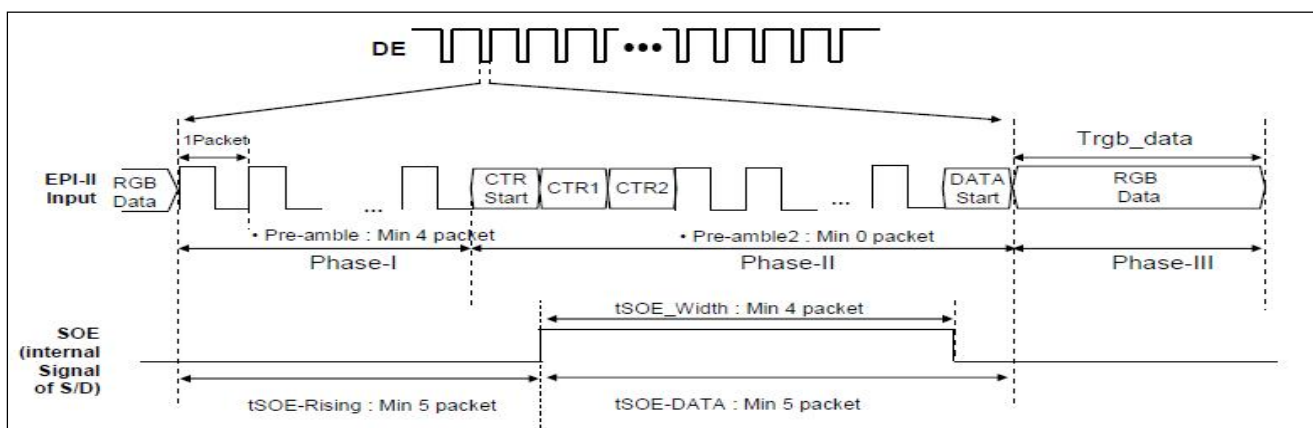

FIG 5. SOE Width & Timing
7. 3D performance specification is expressed by 3D luminance, 3D Crosstalk and 3D viewing angle. 3D luminance and 3D crosstalk is measured at center 1-point. For more information, see the FIG 5~8.